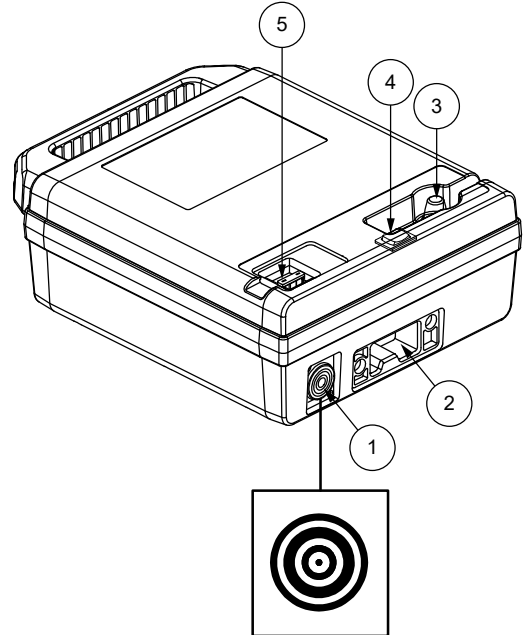
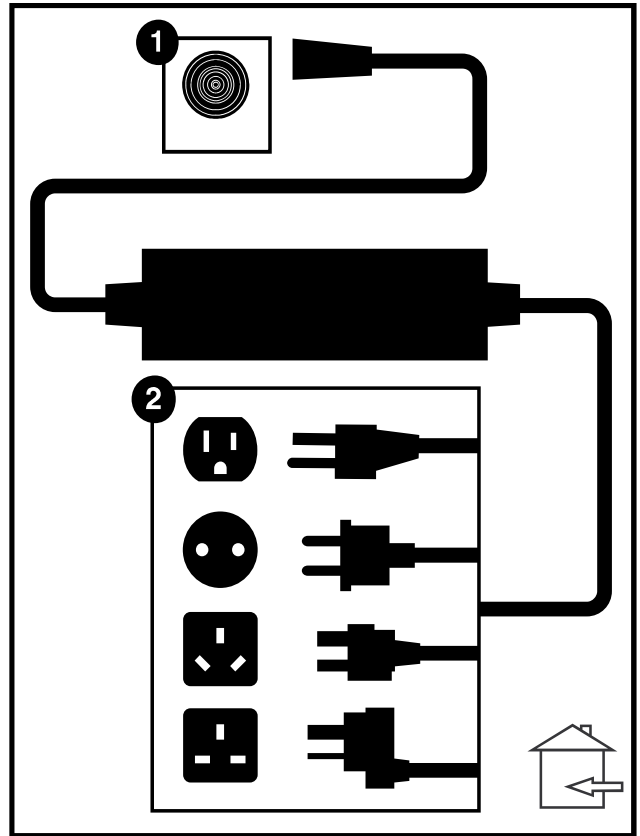

Figure 2. Battery Pack
Figure 4. Off-board Battery Charger
Your scooter is equipped with an innovative easy-to-remove Lithium-Ion battery pack. Refer to III. "Batteries and Charging" for battery pack replacement instructions. See figures 2 and 3.
The off-board battery charger, when plugged into the charger power cord receptacle and a standard electrical outlet, charges the scooter's batteries. See figure 4.
The end of the magnetic battery charger connector (see figure 4) plugs into the magnetic battery receptacle (see figures 2 and 10). Inspect the magnetic battery charger connector and receptacle before each use. If there is any debris or contaminants, wipe clean with a soft dry cloth. If there is any damage, discontinue use and contact your authorized Provider.
**NOTE:** Charge your scooter's battery prior to using it for the first time. Fully charge your scooters battery using the charger supplied with the scooter. Plug the charger into your scooter first and then plug the charger into electrical outlet. See figure 2.